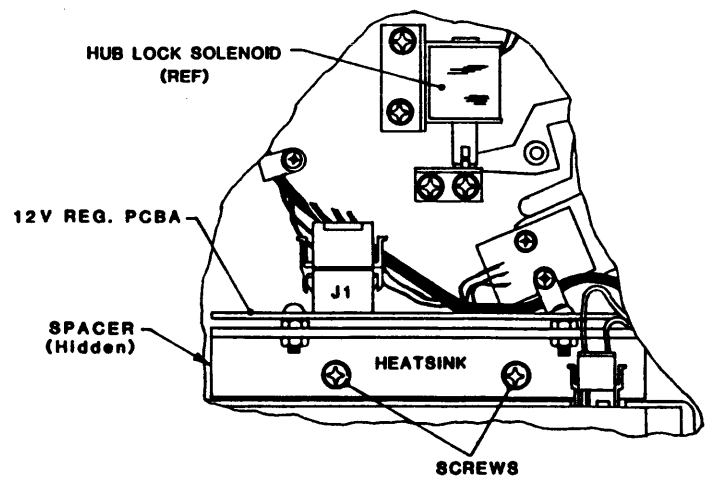

Figure 5-14.
5.3.18 12-VDC REGULATOR ASSEMBLY (Figure 5-14)